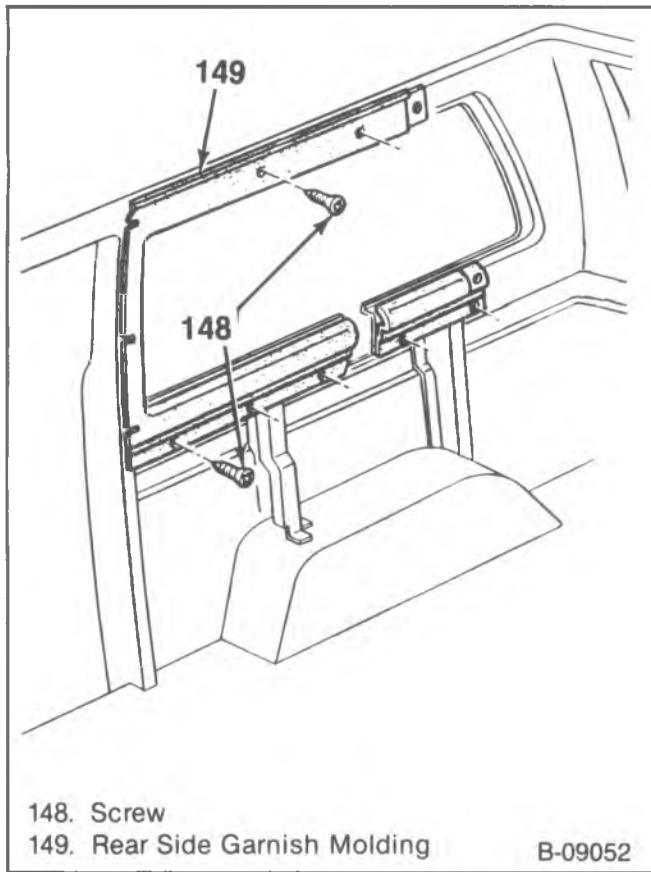

Figure 52—Rear Side Garnish Molding
11. Body side rear garnish molding screws and the molding (figure 52).
4. Body side rear garnish molding and screws (figure 52).